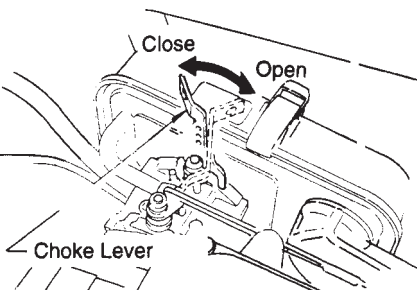

Figure 7. Choke Lever
3. Close the choke lever (Figure 7). Turning the choke lever 90 degrees clockwise closes the choke. In cold weather, start the unit with choke fully closed. In warm weather or when the engine is warm, the unit can be started with choke halfway or completely open.
7. If the engine does not start after repeated attempts, check the spark plug for excess fuel. Clean and replace the spark plug as needed, then move the choke lever (Figure 7) to the half open position to avoid flooding and repeat steps 1 thru 5.